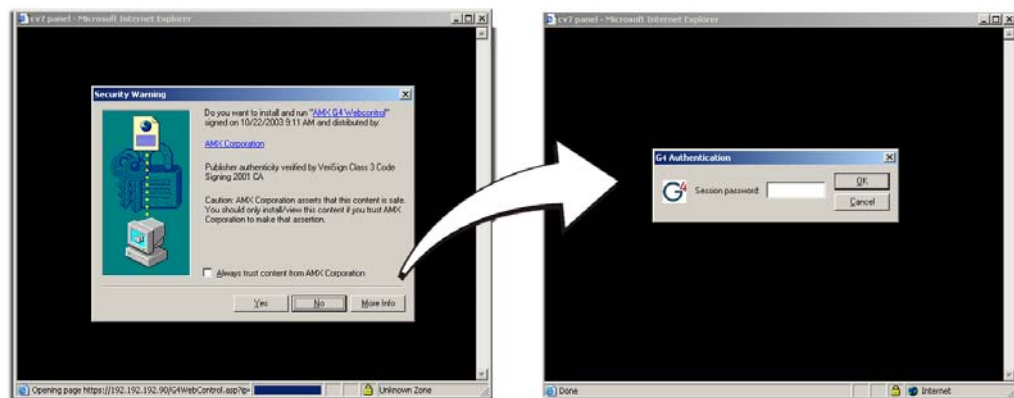

FIG. 45 Web Control VNC installation and Password entry screens
6. Click on the G4 panel name link associated with the target panel. A secondary web browser window appears on the screen (FIG. 45).